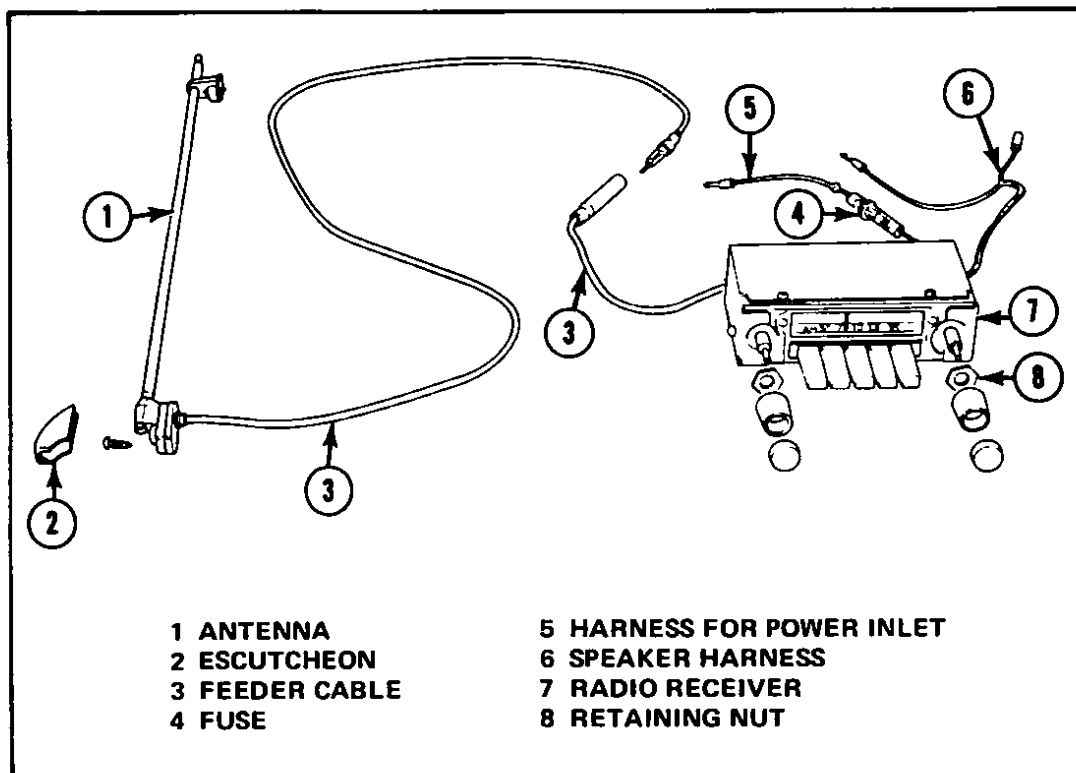
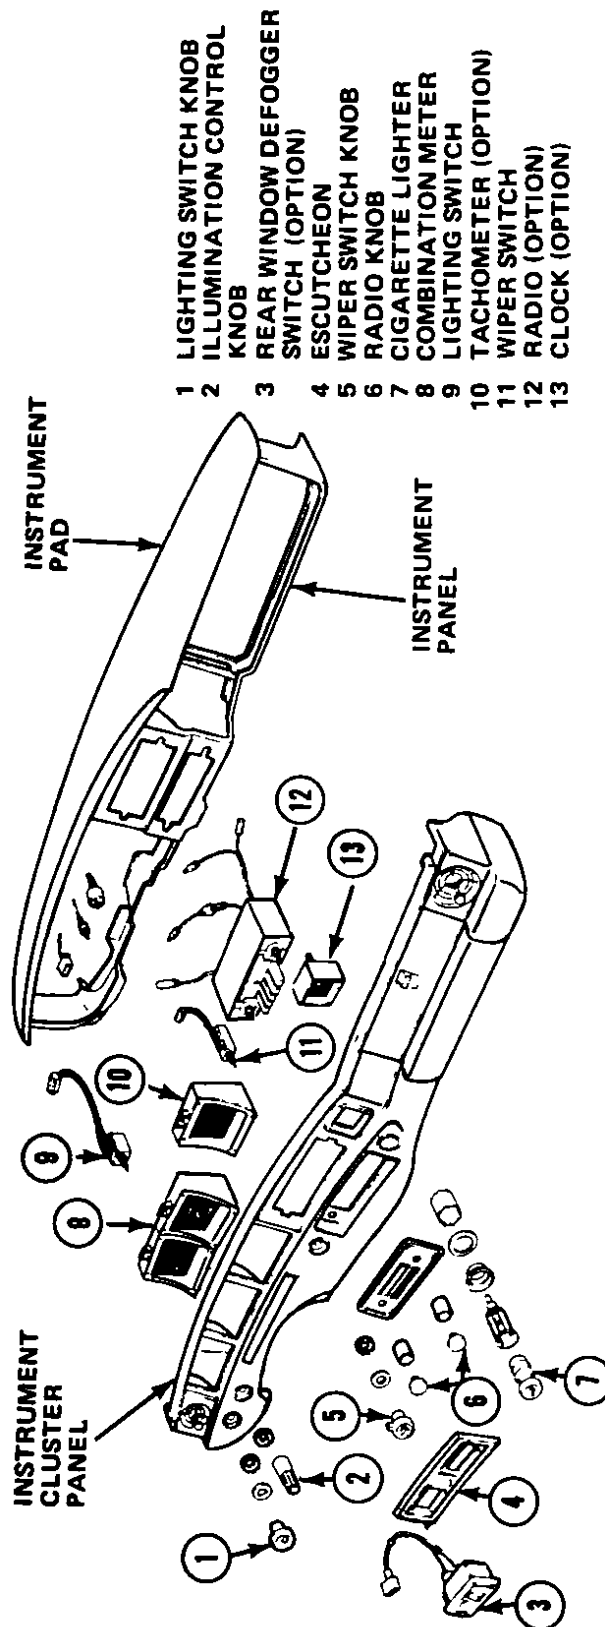

Fig. 68 Radio system - Model B210
Fig. 69 Instrument panel assembly – Model B210
- 2 Pull off all radio knobs, Fig. 68. Then remove instrument cluster panel by removing four screws securing shell covers, and take out shell covers, Fig. 69.